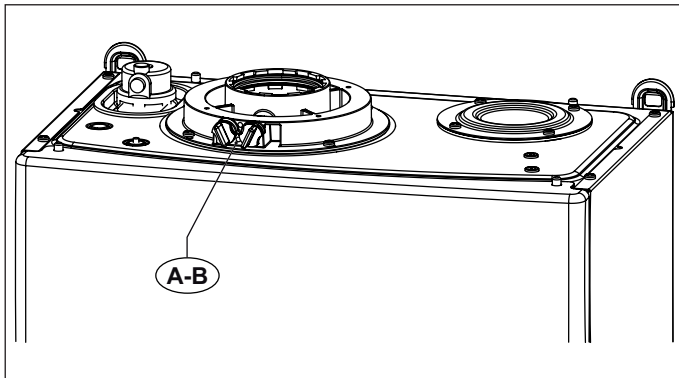
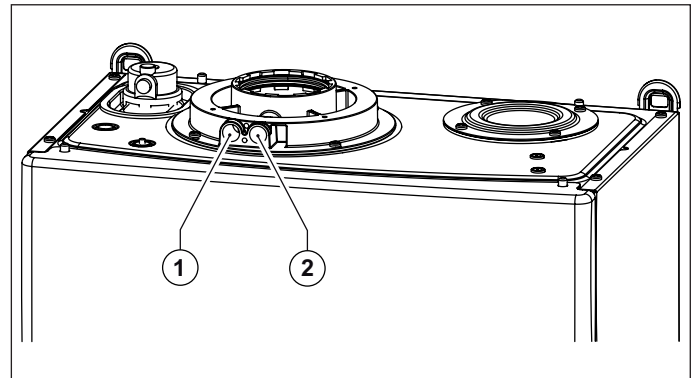

Fig. 15 Plugs position
Fig. 16 Hole position
The boiler is equipped with a tower allowing for air intake/flue gas venting pipe connection (see Fig. 15 Plugs position and Fig. 16 Hole position).
The tower is designed with two pre-arranged openings directly accessing air and flue gas ducts (see Fig. 16 Hole position).
Remove caps **A** and **B** from the pre-arranged openings on the tower, before starting combustion checking procedure (see Fig. 15 Plugs position).
- assess combustion air from opening **1** (see Fig. 16 Hole position).
- assess flue gas temperature and CO2 from opening **2** (see Fig. 16 Hole position).